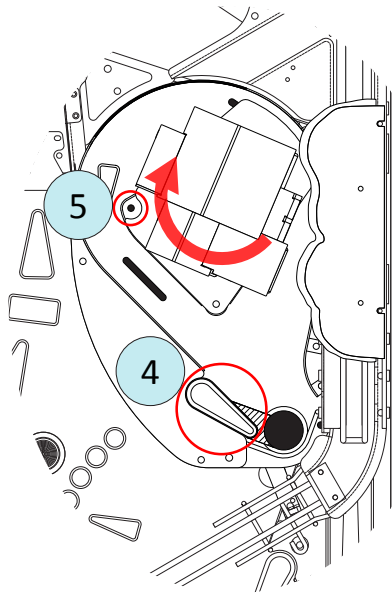

Figure E6. Munchkinland playfield removal, illustration 2.
4) Remove the mini rubber ring from the Munchkinland flipper (circled in figure E6).
5) Grasp the roof of the Munchkinland playfield’s spinning house and manually rotate it (CW) until the large, open corner is aligned with the first of three screws holding the playfield down (as shown in figure E6). Using a 1/4” nutdriver or Phillips screwdriver with a long shaft, remove this screw. A magnetic pickup tool can be used to help pull the screw out of its hole.